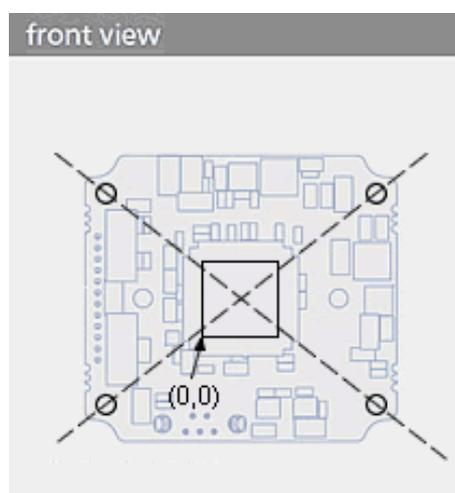

Figure 21: Sensor's optical midpoint and orientation
9.4.2.1 Sensor's optical midpoint and orientation The sensor's optical midpoint is in the center of the board (Figure 21: intersection point of the holes diagonals). The (0,0) coordinate of the sensor is located at the one bottom left corner of the sensor (please notice that Mini-B USB connector is located at the bottom at the back).